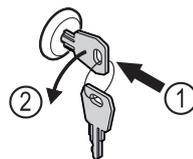

Fig. 171
- ▶ Insert the key. Fig. 171 (1)
- ▶ Turn the key anticlockwise by 90°. Fig. 171 (2)